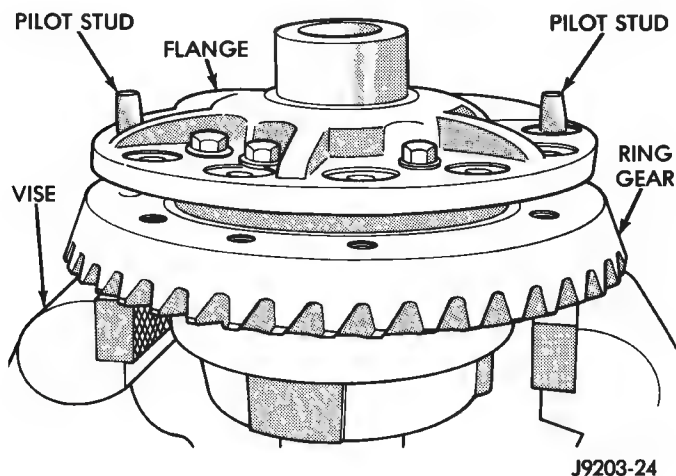

Fig. 18 Case-To-Ring Gear Alignment
(3) Position the thrust washers on the differential pinion gears. Mesh the pinion gears with the side gears. **Ensure that the pinion gears are exactly 180 degrees opposite each other.**
(4) Rotate the side gears to align the pinion gears and thrust washers. Align these components with the mate shaft bores in the case.
(5) If ring gear was removed, clean all contact surfaces. Use an Arkansas stone or fine file to remove any sharp areas from the chamfered inside diameter.
(6) If removed, heat ring gear with a heat lamp or by immersing in a hot fluid. The temperature should not exceed 149°C (300°F). **Do not use a torch to heat the ring gear.**
(7) Position heated rear gear on case. Use two equally spaced Pilot Studs C-3288-B to align the gear with the flange holes (Fig. 18).